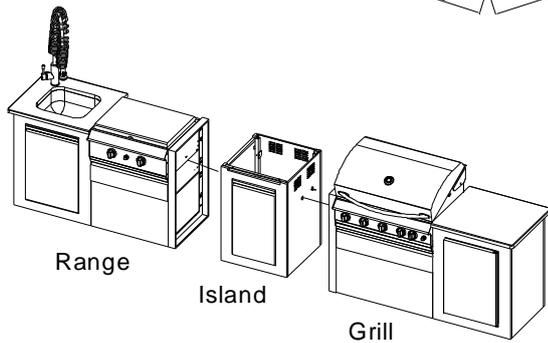

Fig. 1
- Separate the Island from Range and Grill modules. See Fig. 1.